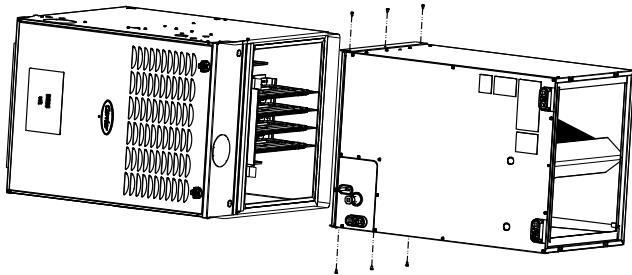

Fig. 10 – Horizontal Right Installation
4. Use self-tapping screws to attach furnace (Fig. 10).